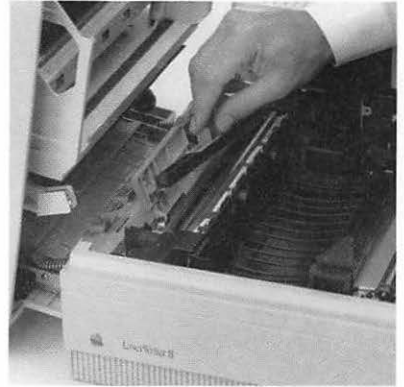

Figure 6-9
- 6. Insert the new cleaning pad into the fixing roller assembly. (See Figure 6-9.) Then close the green cover.**